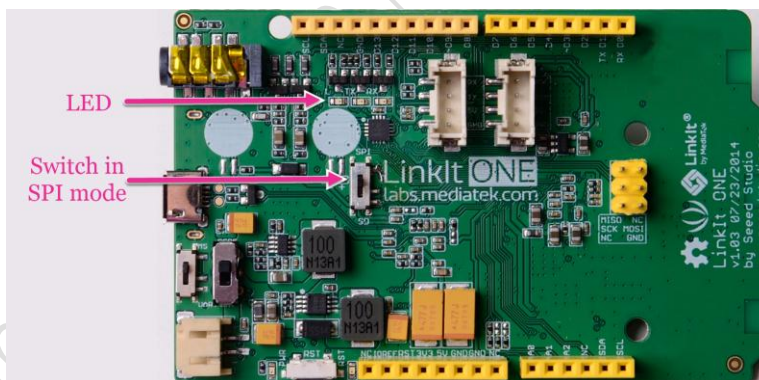

Figure 12 The LED on the LinkIt ONE board
- 2 Confirm that your board is in SPI mode, by checking the switch show in Figure 12. The switch should be in the position closest the LED. (For more information, see 4.9, "SPI".)
- 4 Wait for a moment. If everything is correct, an **Upload Done** message will display in Arduino IDE and the LED on LinkIt ONE will start to blink on and off every second, as shown in Figure 12.